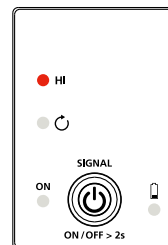

Figure 3.1c: Transmitter indicator showing signal in HIGH mode
3. HIGH signal mode is automatically activated when the Transmitter is turned on. The LED on the Transmitter should appear as in Figure 3.1c.